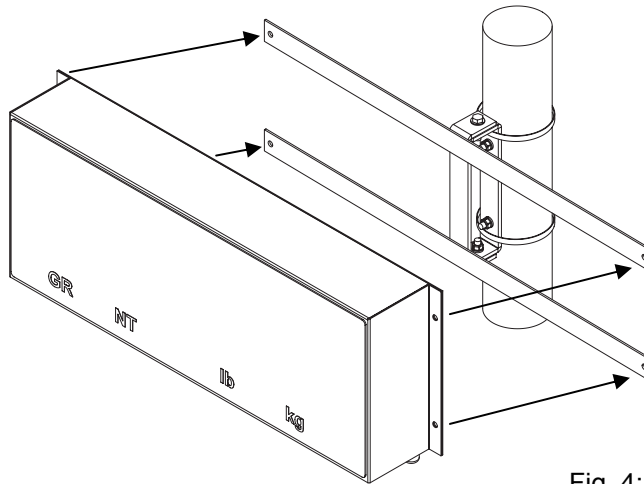

Fig. 4: Pole Mounting Bracket
3. Fasten the Aurora display to the Pole Mounting Bracket as outlined in the Mounting Instructions (See Fig. 4).